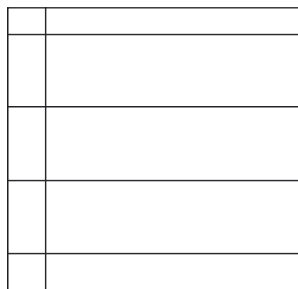

Figure 3: Mark Tube Locations
- Mark the wall for tube placement. Refer to **Figure 3**. A horizontal line represents the bottom of a tube, and a vertical line represents the end of a tube or the side of a display.